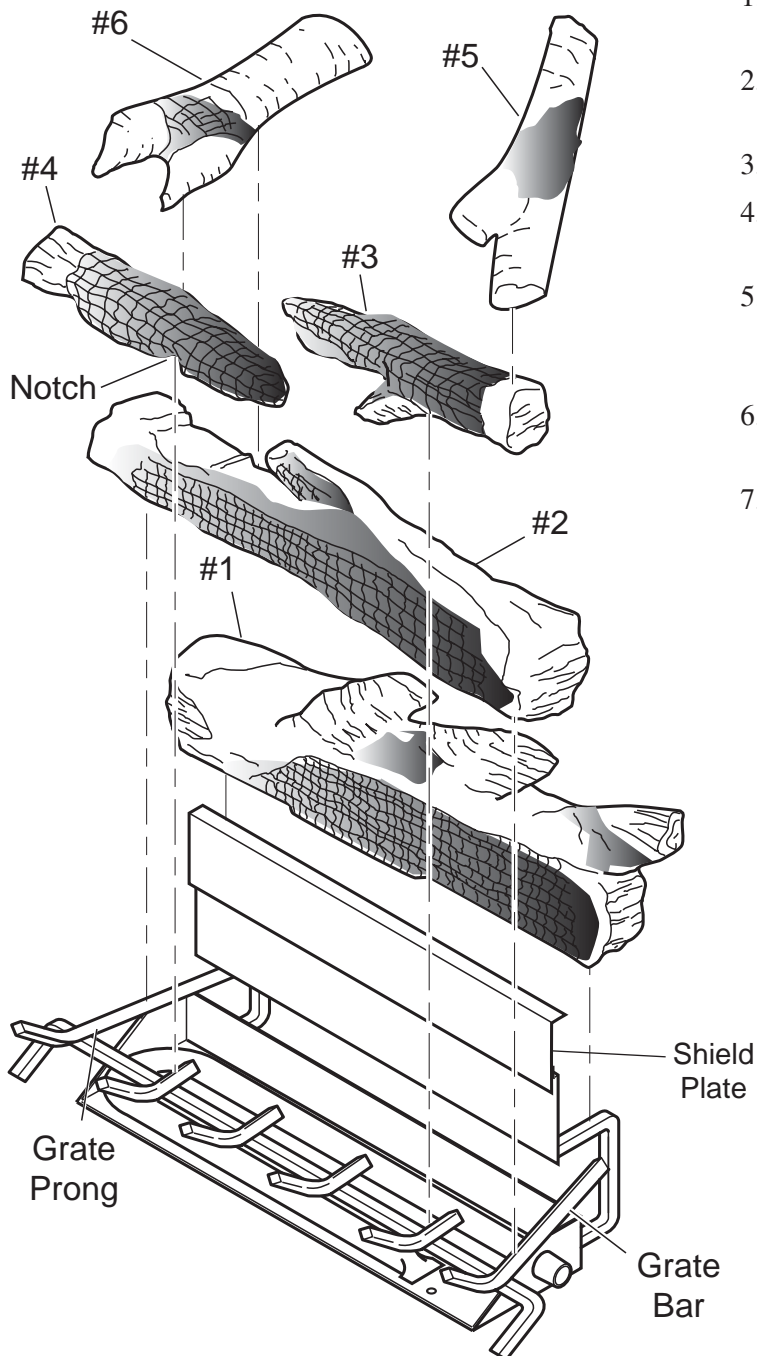

Figure 65 - VWF24B (Birch) Log Placement
1. Slide shield plate down back of burner pan. *See Figure 65.*